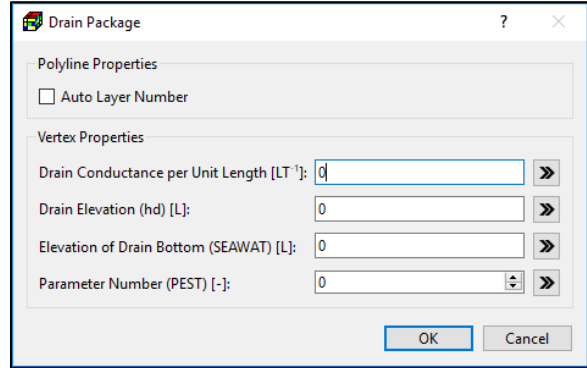

Figure 39. The Drain Package dialog box for specifying vertex properties
2. Polyline input method: Figure 39 shows the dialog box that is used to specify polyline and vertex properties.
- If this box is checked, the layer number of a drain segment along the polyline is determined by comparing its drain elevation (HD) with the top/bottom elevations of the cells in the same vertical model column as that drain segment.